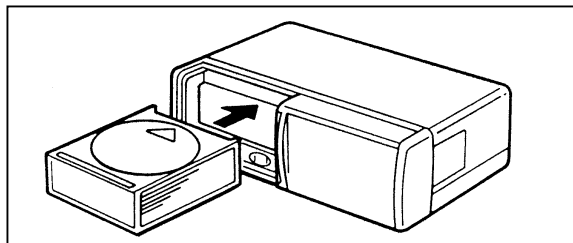

Figure 4
- Insert loaded disc magazine into chamber unit with the arrow on top of the disc magazine pointing toward the changer (Figure 4). Make sure magazine is fully inserted into changer.